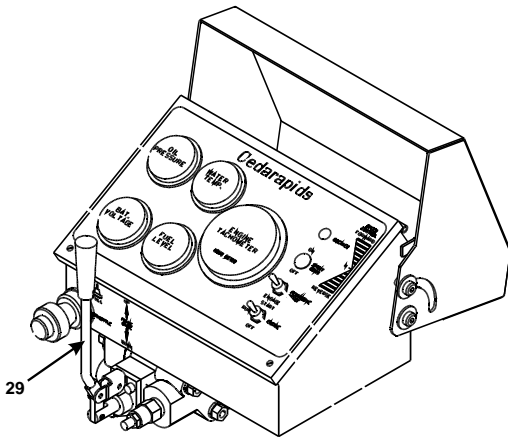

Figure 23
- Lower front of machine by using the FRAME RAISE lever 29 (Figure 23).
- Raise front of machine to full height by using FRAME RAISE lever (29) (Figure 23).